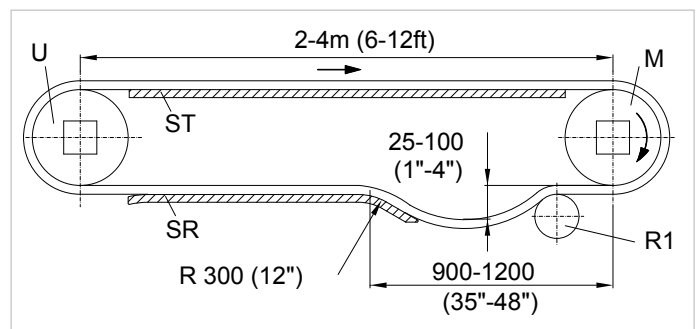

Figure 50
**Medium length conveyors** (2 to 4 m (6 to 12 ft)) (Fig. 50)